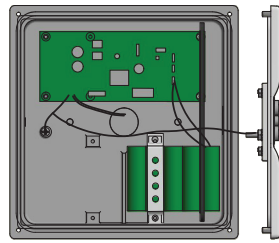

Figure 3
4. Secure back box to mounting surface with (2) screws (not supplied).
10. Light distribution can be changed by using a different lens. See page 3 and Figures 3, 4 and 5.
11. Light distribution can be changed by using a different lens. See page 3 and Figures 3, 4 and 5.